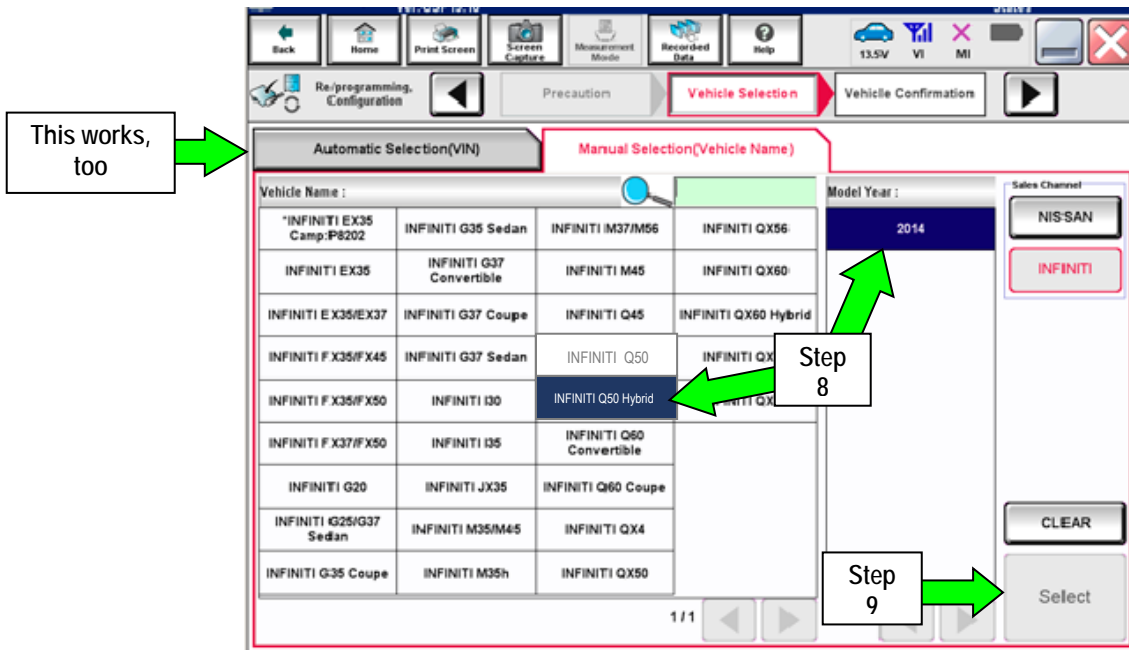

Figure 3
- If Automatic Selection (VIN) is selected, or the screen in Figure 3 does not display, skip to step 10.